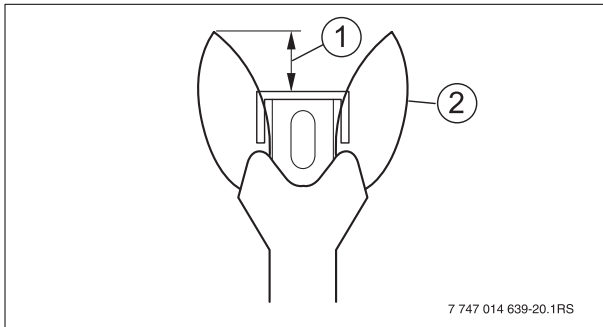

Fig. 35 Correct pilot flame setting
21. Test the safety switch by closing the gas shut-off. The main burner flame (→ Fig. 36) and the ignition flame (→ Fig. 35) are extinguished. After six (6) seconds at the most the main gas solenoid valve on the gas valve must close with an audible noise.